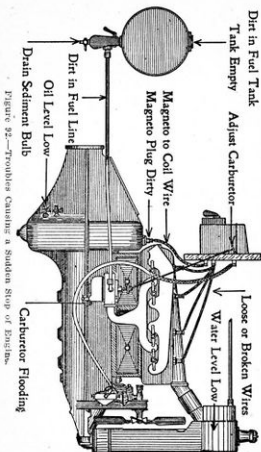

Figure 92.—Troubles Causing a Sudden Stop of Engine.
2. Sudden stopping of the engine. Figure 92.